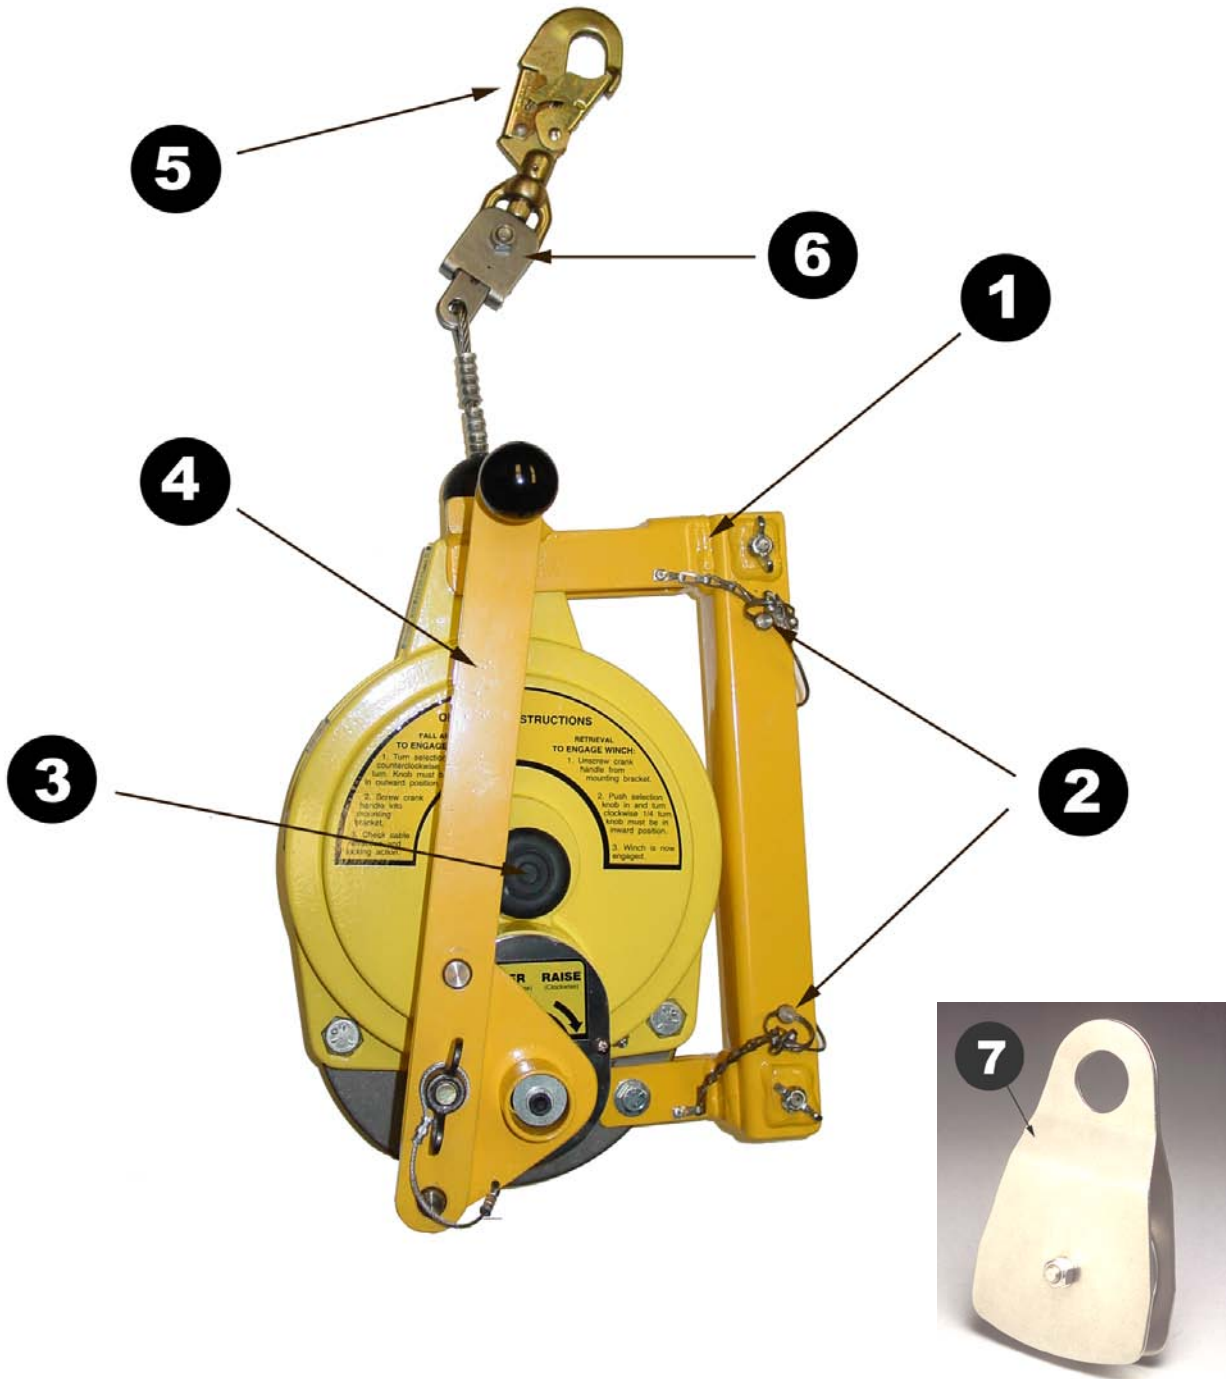

FIGURE 1
Your retractable lifeline may have been supplied with one of the two styles of stress indicators shown above. It is located at the end of the lifeline's cable or rope, as an integral part of or just above the locking swivel snaphook. When new, the stress indicator appears as shown in fig. 1. If subjected to a fall arrest impact (activated), it will appear as shown in figure 2. **DO NOT USE** if the stress indicator has been activated.
inspect the entire fall arrest unit for any indication of damage, wear or malfunction to include, but not limited to, worn cable or damaged locking snaphook. Remove from service immediately if the unit is damaged, has been subjected to a severe fall, does not pass inspection, the stress indicator's (fig. 1, (6)) red area is visible or if the unit has not been inspected by the Gemtor factory within the last 12 months.
**OPERATING INSTRUCTIONS (SEE FIG. 1):****Retractable Lifeline Operation (for fall arrest):**
1. Locate the knob (3) under the handle (4) on the winch side. Turn the knob counterclockwise 1/4 turn. The knob will spring outward.
2. Secure the handle (4) to the mounting bracket (1). Note: handle must be in position 1.